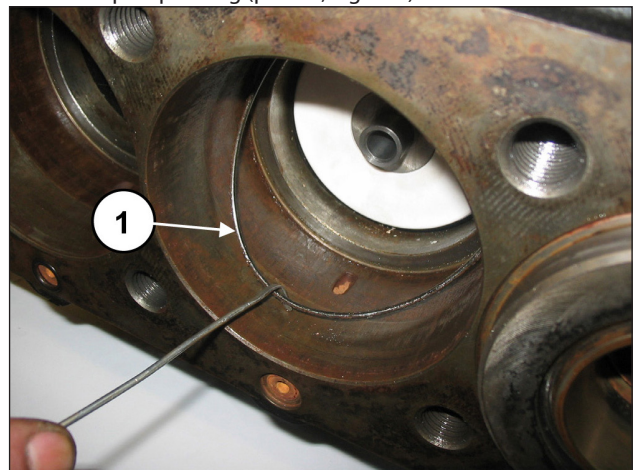

Fig. 115
Extract the seal support unit and the buffering tool. Remove the seal support bottom O-ring should it remain inside the pump casing (pos. ①, Fig. 115).